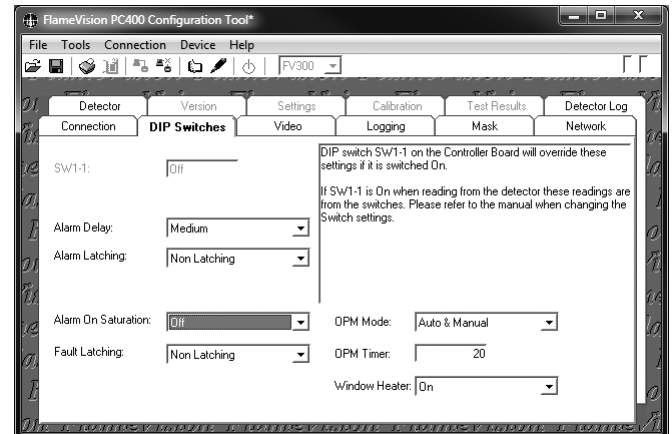

FIGURE 6-2
5. Confirm the following settings in the **DIP Switches** tab (see Figure 6-2):